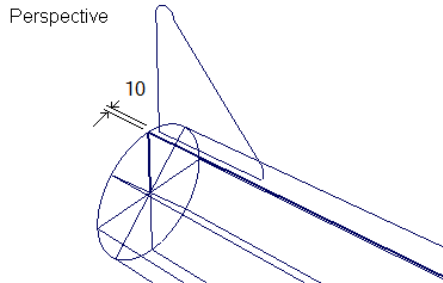

Figure 3-100 Profile of the tail piece
1. Choose the **Line-arc** tool from the **Keypoint Curve Toolbox** and create the profile. Note that you need to create the profile at an offset of 10 units or a suitable value from the center of the central part of the model, as shown in Figure 3-100.